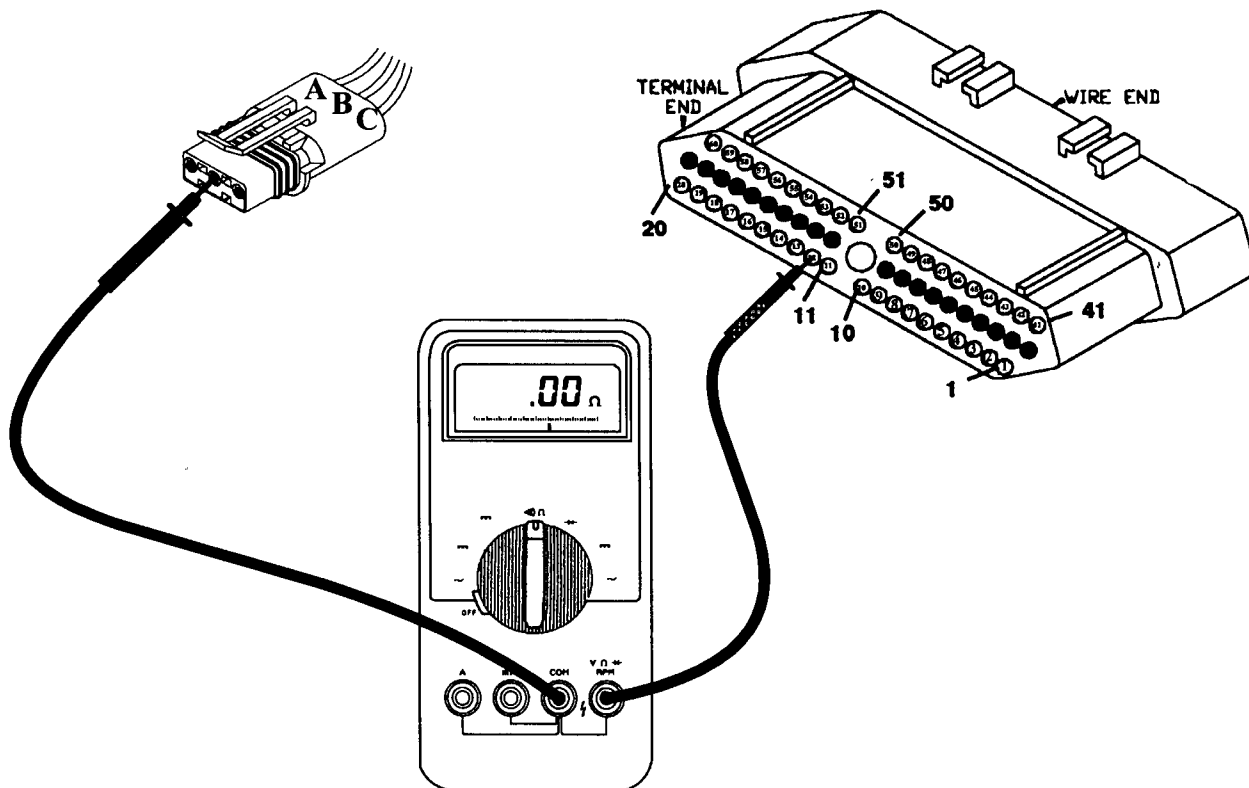

Figure 47
- Unplug both the TCM and TPS. Perform a continuity check from terminal B in the TPS connector to terminal 12 in the TCM connector (See Figure 47). If continuity is not seen, repair the severed wire. If continuity is seen, replace the TPS.